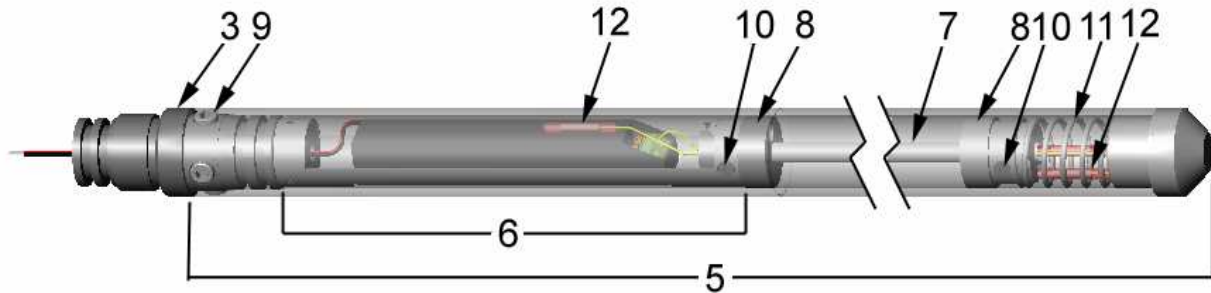

Figure 1: Drill Collar Severing Tool Shipping Assembly
1.1 Remove all non-explosive items from the shipping container; this includes the shipping assembly shown in Figure 1, O-rings, and Cap Screws.